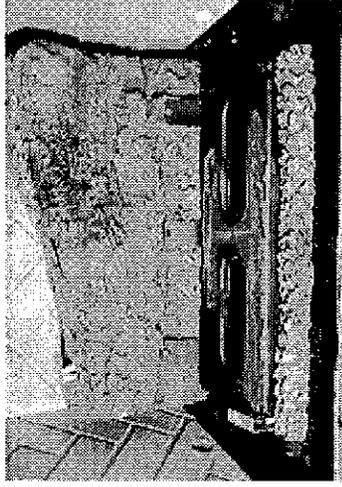

Figure 3.3 Remove Burner Pan
- Remove the burner pan by removing four screws. See Figure 3.3. Pull up on the burner pan to remove.